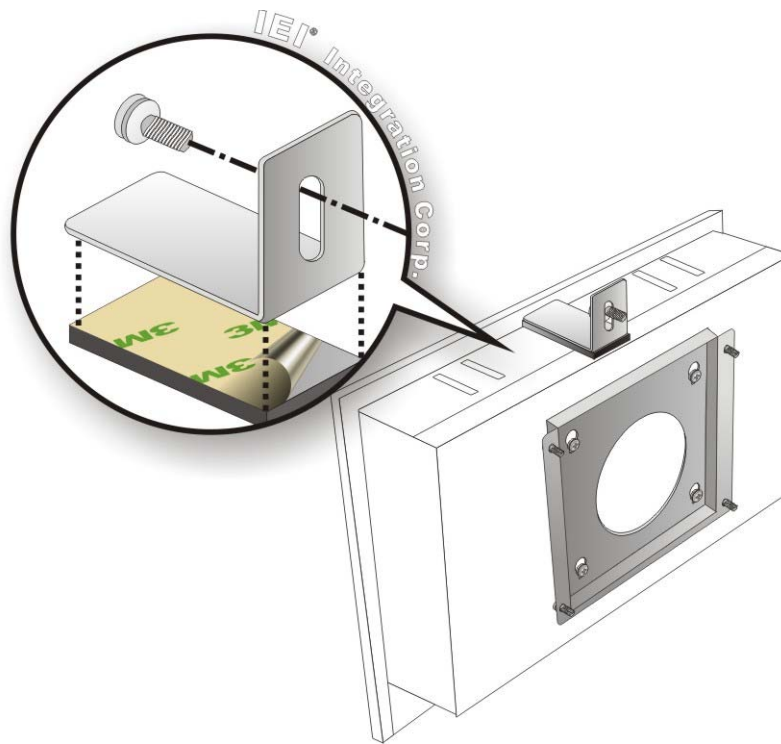

Figure 3-17: Secure the Chassis
Step 9: Secure the panel PC with the wall-mounting kit. To do this, stick the protective cushion to the wall-mounting kit first. Then, put the wall-mounting kit on the top panel of the panel PC. Carefully mark the location of the wall-mounting kit screw holes on the wall. Drill a pilot hole at the marked location on the wall. Secure the wall-mounting kit to the wall by inserting a retention screw into the pilot hole on the wall (**Figure 3-17**). This step is to avoid the panel PC being pushed apart from the wall-mounting bracket accidentally.